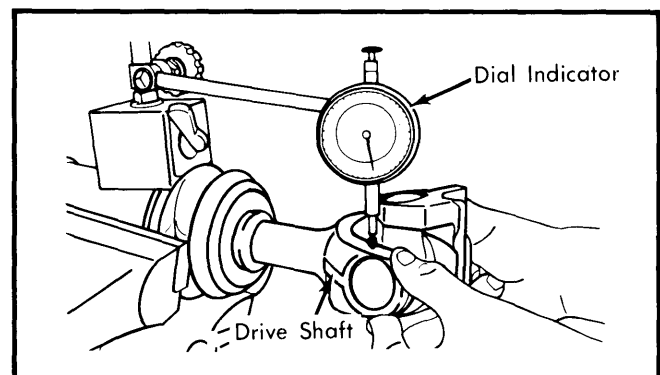

Fig. 3 Measuring Play in Rear Drive Shaft
**Cleaning & Inspection** - Check rubber boot and oil seals for damage and replace as necessary. Inspect drive shaft for straightness, cracks, damage and distortion; replace drive shaft if necessary. Check all other components for wear, damage and distortion; replace complete drive shaft assembly if any faulty part is found. Check drive shaft play as shown in Fig. 3. Replace complete assembly if play exceeds .04" (1 mm) on 810 or .008" (.2 mm) on 280ZX.